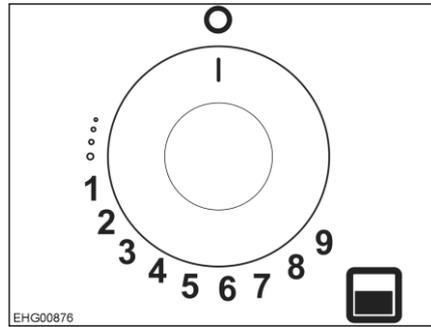

Fig. 130 Control knob for gas oven
- Press the control knob (Fig. 130) and turn it in an anticlockwise direction to highest setting (gas level 9).